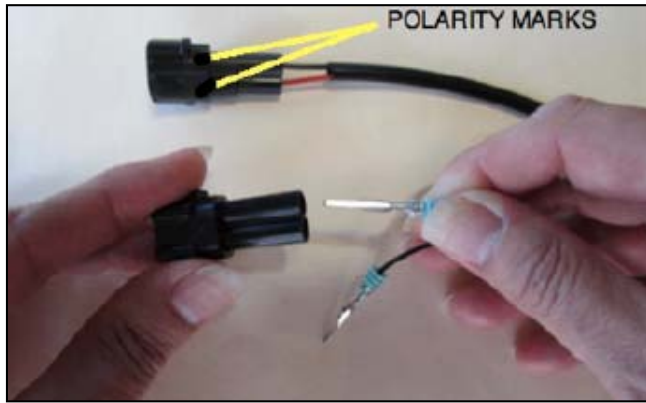

Figure 7
10. Push the pins of the DRL wire harness into the connector supplied in kit. The connector has a “+” and “-” marks. So connect the red wire into the “+” side and black wire into the “-” side. You may use the driver box as a guide: wire colors must be aligned with the wire colors of the driver box: black with black and red with red, etc. See Figure 7.